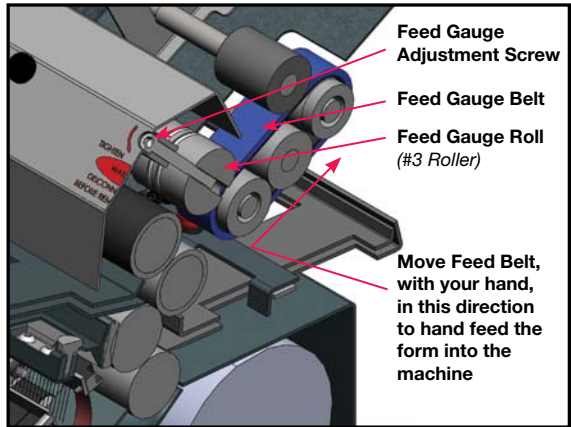

Figure 10: Feed Gauge Cross Section
To properly set the Feed Gauge System, refer to Figure 10.
5. Insert the 7/16" socket at the end of the breaker bar (*inside the tool box*) over the hex shaped end on the #3 roller (*Figure 10, page 13*). This bar can now be used to rotate the rollers.
5. Place the *Breaker Bar* socket (*inside the tool box*) over the hex end of the #3 roller (*Figure 10, page 13*).